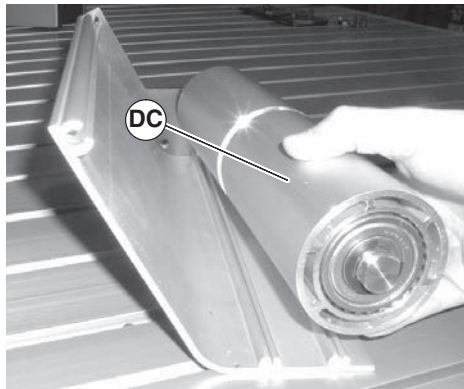

Figure 92
5. Slide the idler pulley assembly (Figure 92, item DC) out of the idler guide side plate on the opposite side.